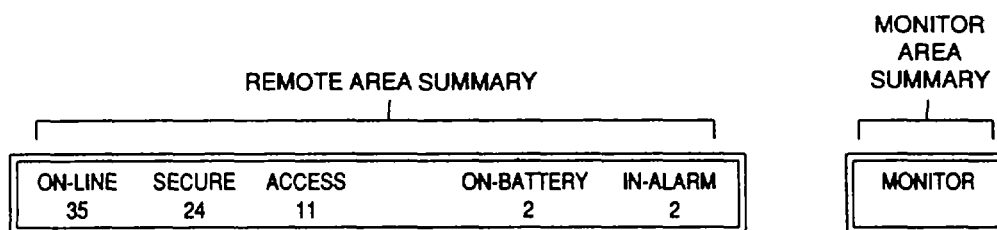

Figure 2-6 System Summary Area (Typical).
- b. Check the System Summary Area (figure 2-6) for the type of status change. When the status change has occurred in a remote monitored area, proceed to step c. If the status change is indicated in the monitor area proceed to step j. Any communications (COM) alarms should be reported to maintenance.